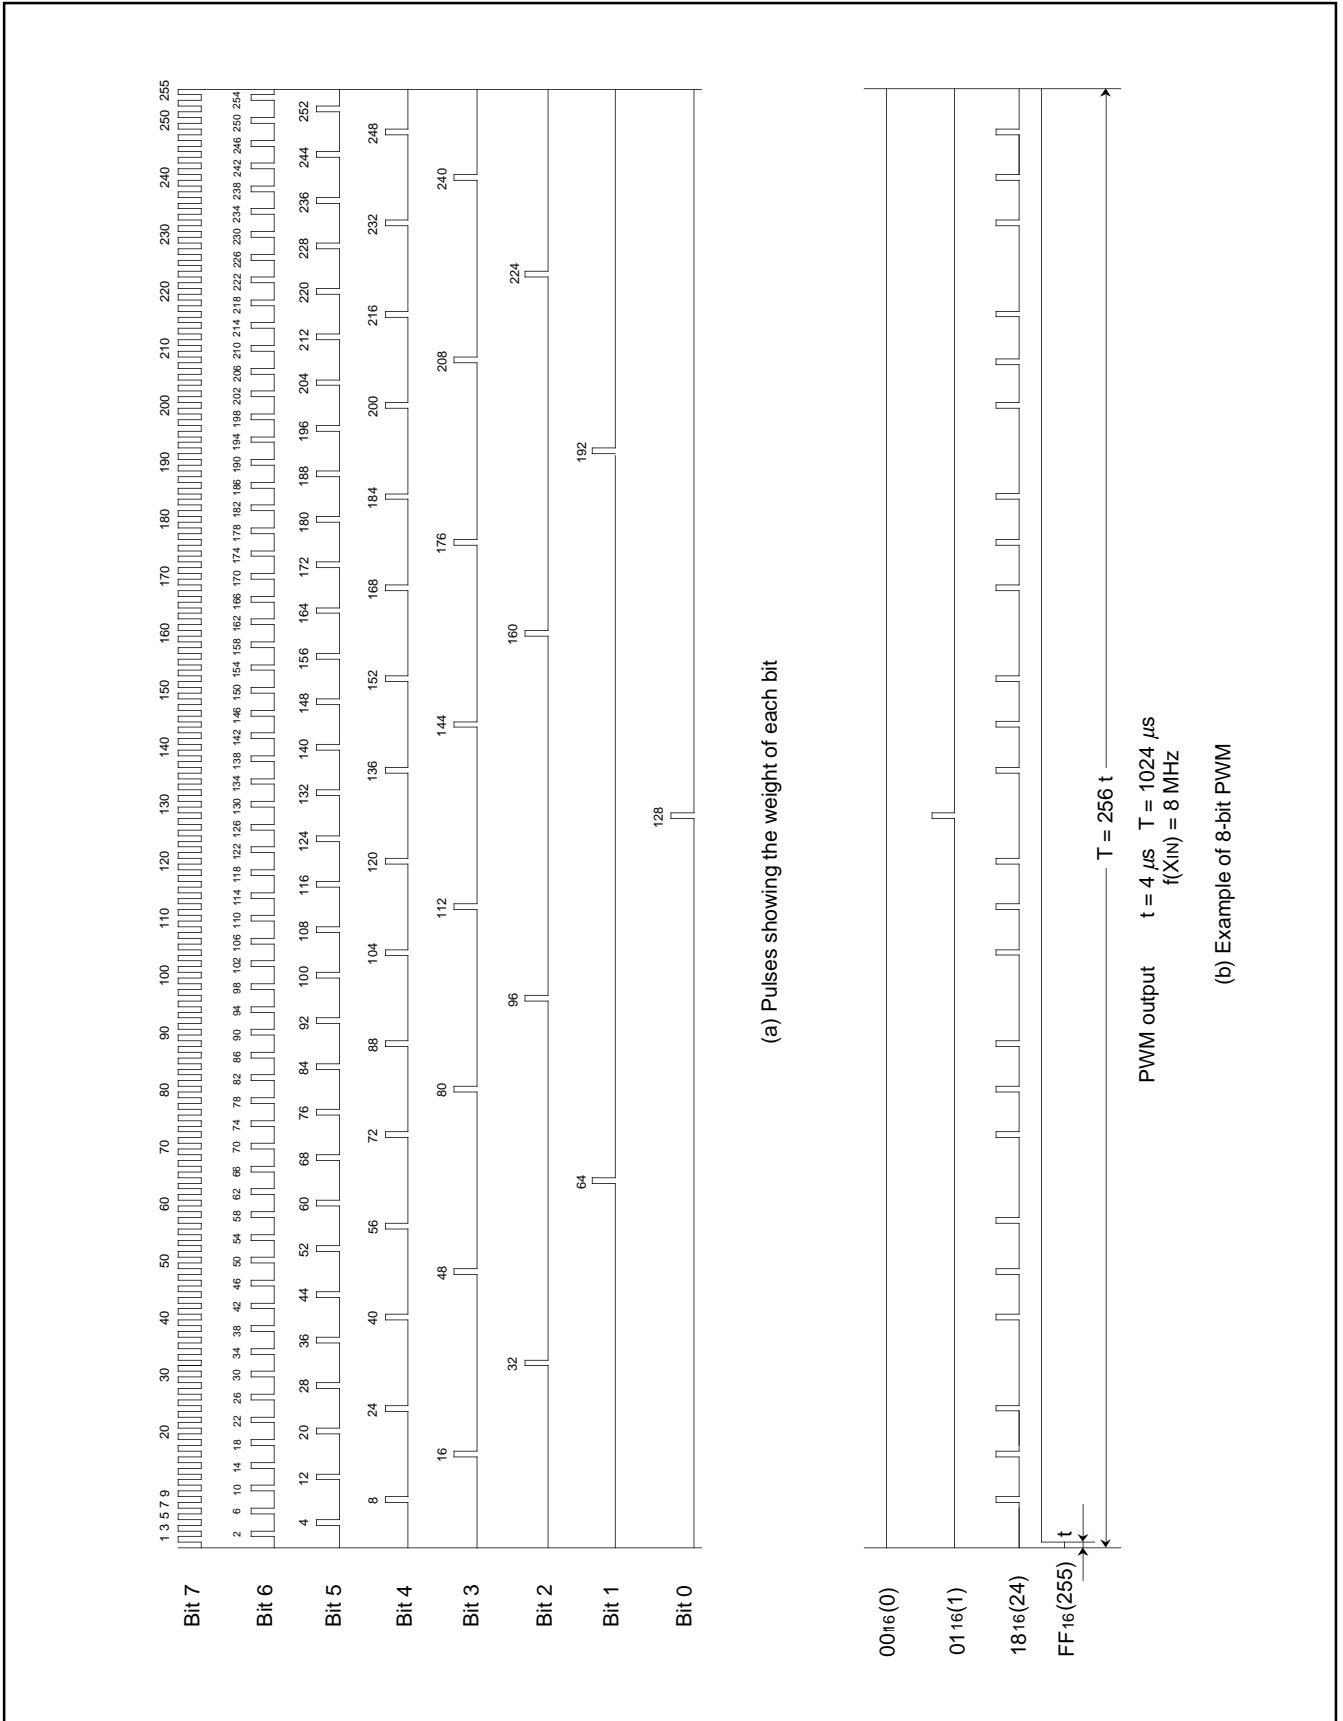

Fig. 23. 8-bit PWM Timing
Figure 23 shows the 8-bit PWM timing. One cycle (T) is composed of $256 (2^8)$ segments. The 8 kinds of pulses, relative to the weight of each bit (bits 0 to 7), are output inside the circuit during 1 cycle. Refer to Figure 23 (a). The 8-bit PWM outputs waveform performed a OR operation of pulses corresponding to the contents of bits 0 to 7 of the 8-bit PWM register. Several examples are shown in Figure 23 (b). 256 kinds of output (HIGH area: $0/256$ to $255/256$) are selected by changing the contents of the PWM register. A length of entirely HIGH cannot be output, i.e. $256/256$.
(4) Operating of 14-bit PWM